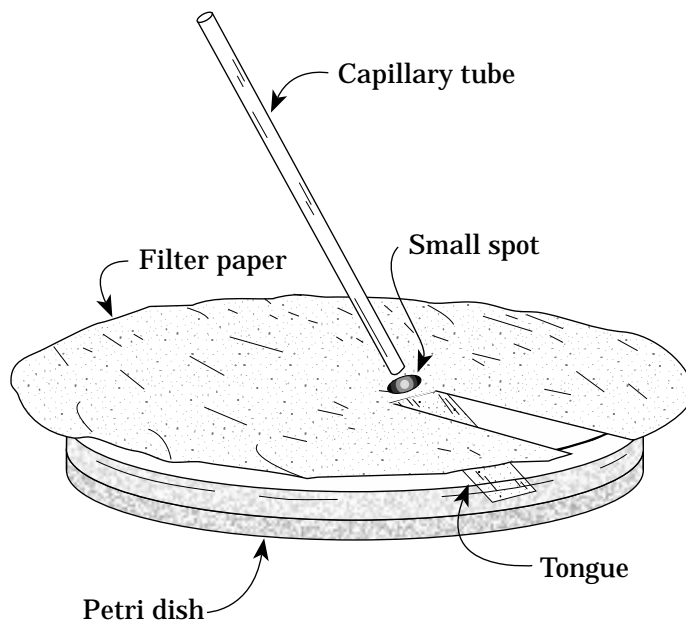

Figure 3. Set-up for paper chromatography demonstration.
1. Cut two pieces of filter paper as shown in Figure 3. Fold the tongue down so that it will just touch the surface of the Petri dish.